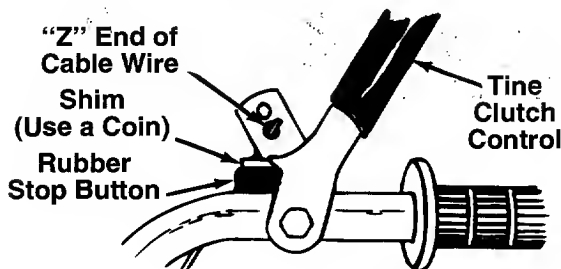

FIGURE 3.
5. Place an approximately 1/16 inch shim on top of rubber stop button (use a coin—nickel or penny) and lift the clutch control so it is against the coin. Hold in this position. See figure 3.
The clutch control lever is located on the left handle. Refer to figure 3. Squeezing the lever against the handle engages the tine drive. Release the lever to stop the tines from turning.